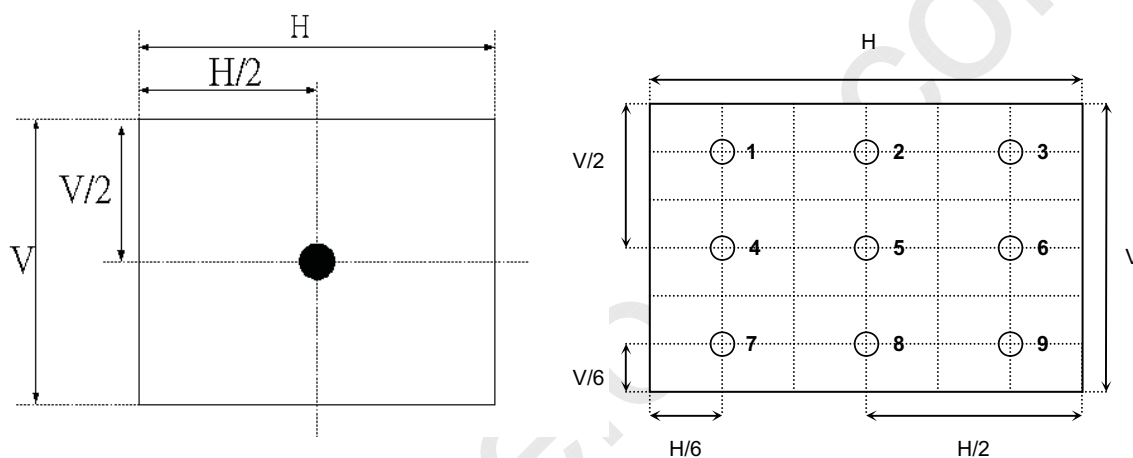

Fig.4-2 Optical measurement point
2. Surface luminance is luminance value at point 5 across the LCD surface 50cm from the surface with all pixels displaying white. From more information see Fig. 4-2. When $V_{DDB} = 28V$, $I_{DDB} = 3.57A$. $L_{WH} = L_{on5}$, Where L_{on1} is the luminance with all pixels displaying white at center 5 location.